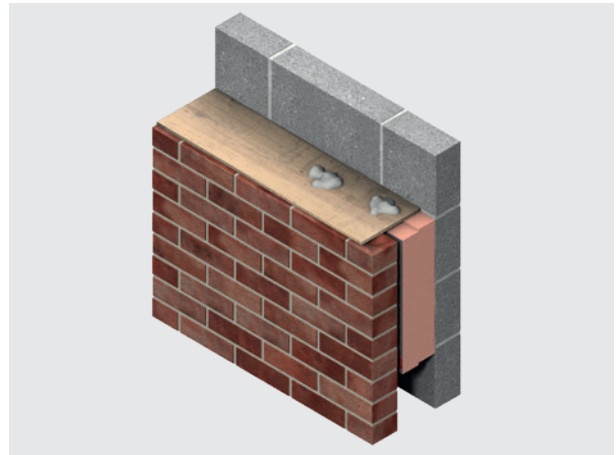

Figure 9 - Use of a Cavity Board to Protect the Cavity and Insulation Board Top Edge
- Use of a cavity batten or cavity board is recommended to protect board edges and maintain a clear cavity (see Figures 9 & 10).